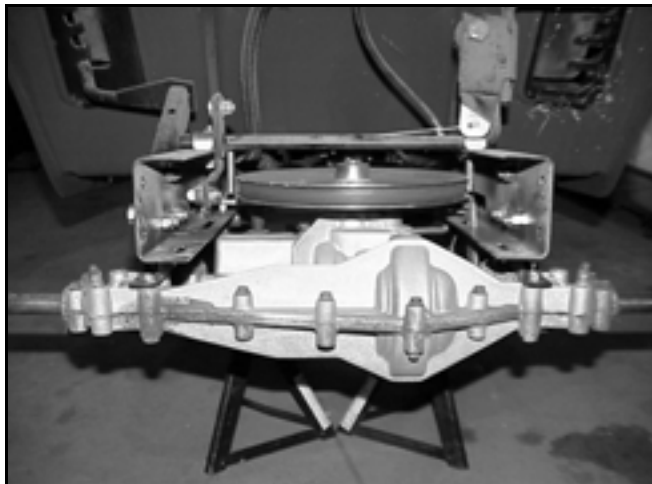

Figure 27
4. Loosen the left side transaxle belt guide. Remove the right side transaxle belt guide (Figure 27).